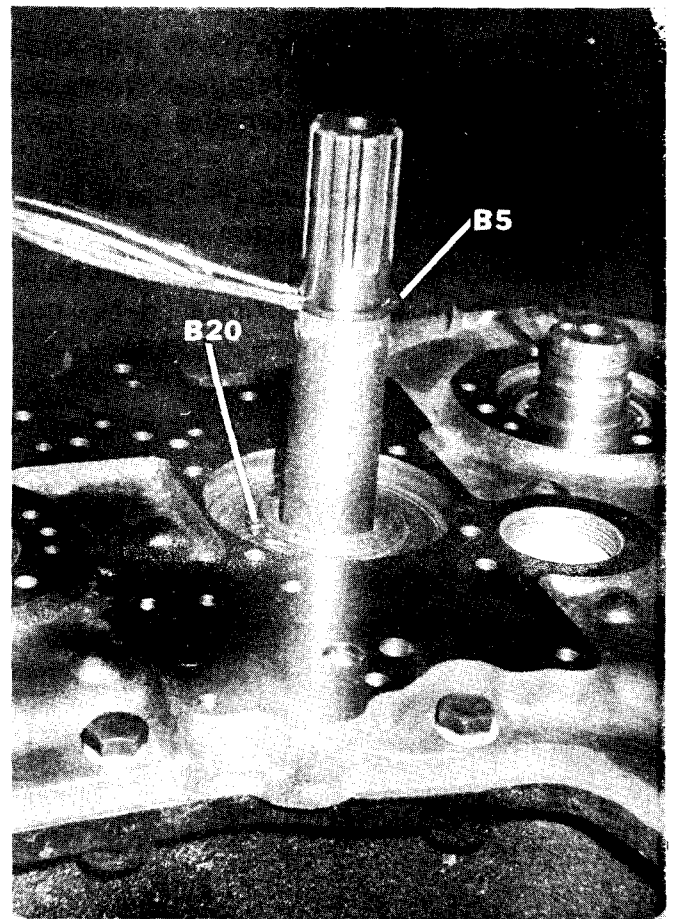

Figure 7
15. Remove snap rings (B-5 and B-20) from PTO and hollow shaft assembly (Figure 7).